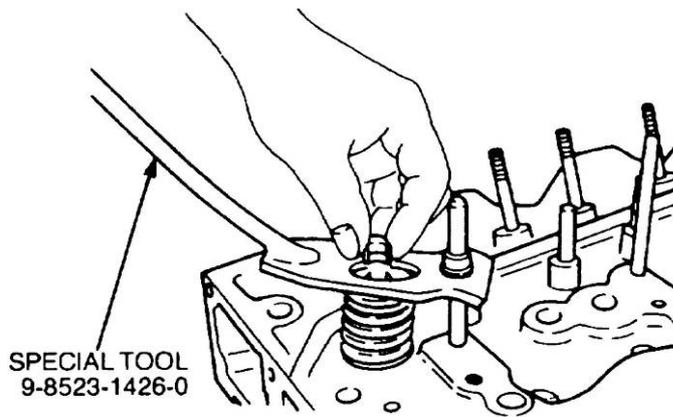

Figure 12 Valve Installation
- s. Install a valve spring retainer over the valve springs, install a valve spring compressor (special tool 9-8523-1426-0) and compress the valve springs. Install the two collets ensuring that they are properly positioned and correctly seated on the valve stem (Figure 12) then release the spring compressor. Repeat this procedure for each valve and spring assembly.